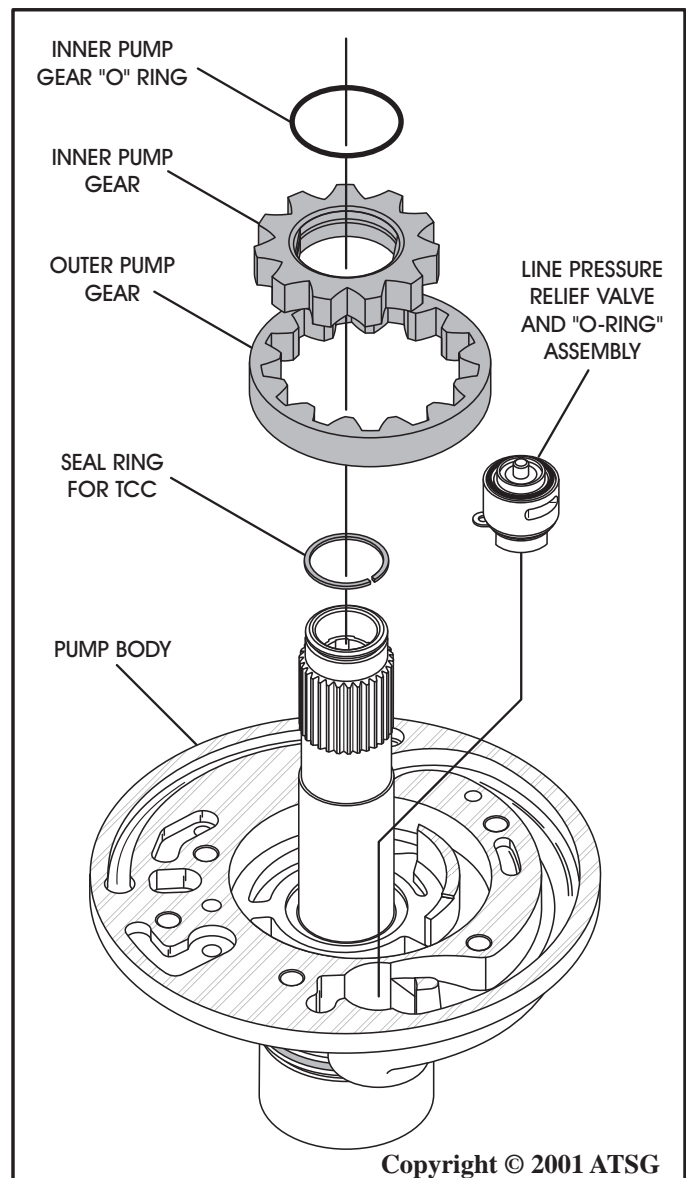

Figure 57
7. Install a new "O" ring on the inside diameter of the inner pump gear and ensure that it is fully seated in the groove (See Figure 57). Lube with a small amount of Trans-Jel®.
8. Dip the pump gears into transmission fluid and install them with the "Dots" facing down, as shown in Figure 57.
9. Install a new "Butt-Cut" seal ring in the groove in the stator shaft, as shown in Figure 57.
10. Install the line pressure relief valve and "O-ring" into the cavity in the pump, as shown in Figure 57.